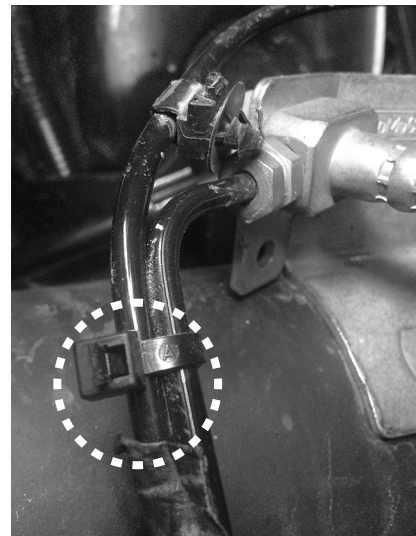

Fig. 18
2. Zip tie the ABS line to the hard brake line (red circle) to keep it away from the lower support leg (Fig. 18).